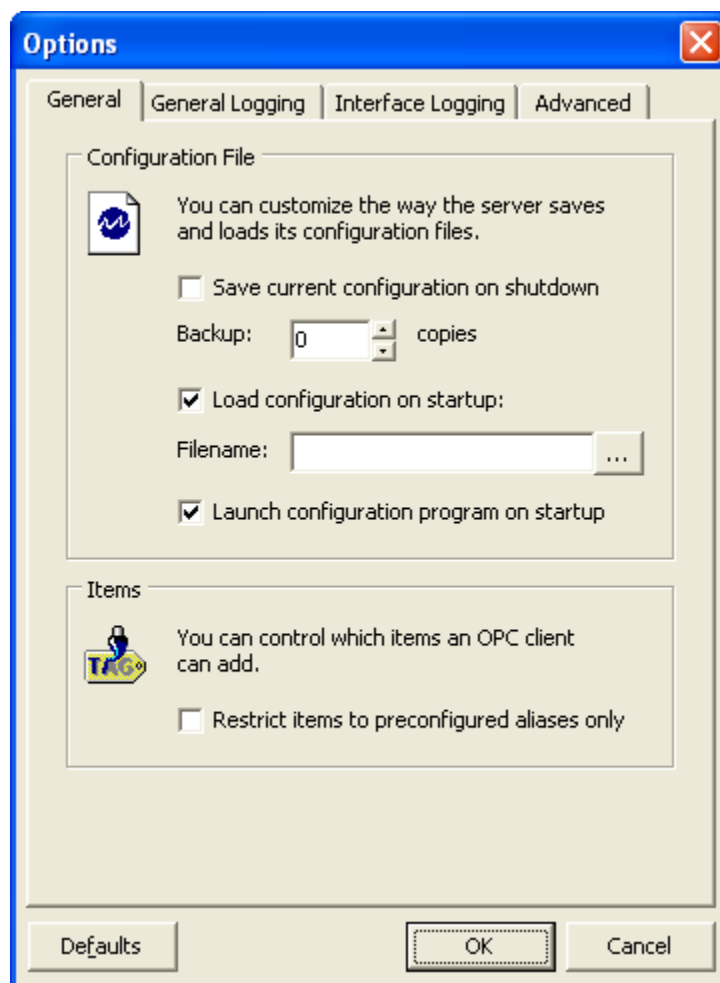

Figure 15 - General Options Tab
3. From the **Options** window, select the **General** tab (Figure 15).